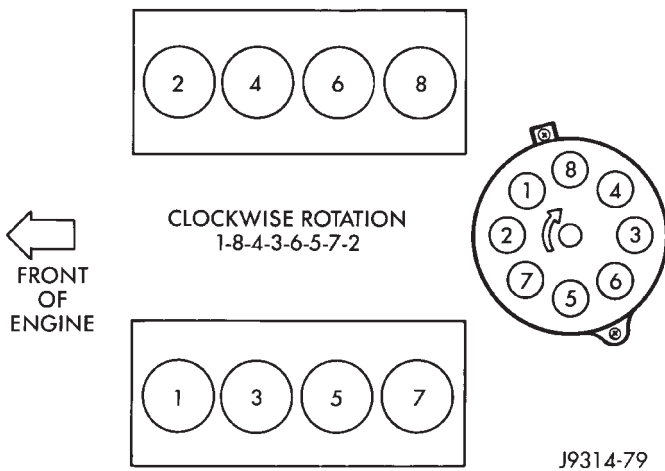

Fig. 2 Engine Firing Order—5.2L Engine
5.2L Engines: Remove coil high-tension cable and all spark plug cables at distributor cap. Note and mark position of cables before removal (Fig. 2). Remove distributor cap from distributor (two screws). Rotate (crank) the engine until the distributor rotor is pointed towards the rear of vehicle. The movable pulse ring should now be within the sensor pickup.